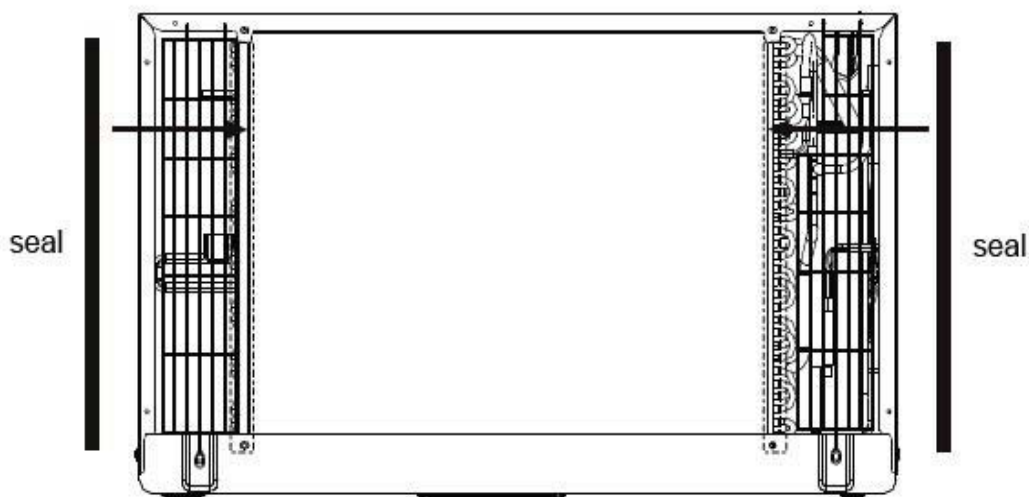

Fig. 1
1. Attach the 2 seal pieces (1"X3/8"X14") as shown in Fig. 1.